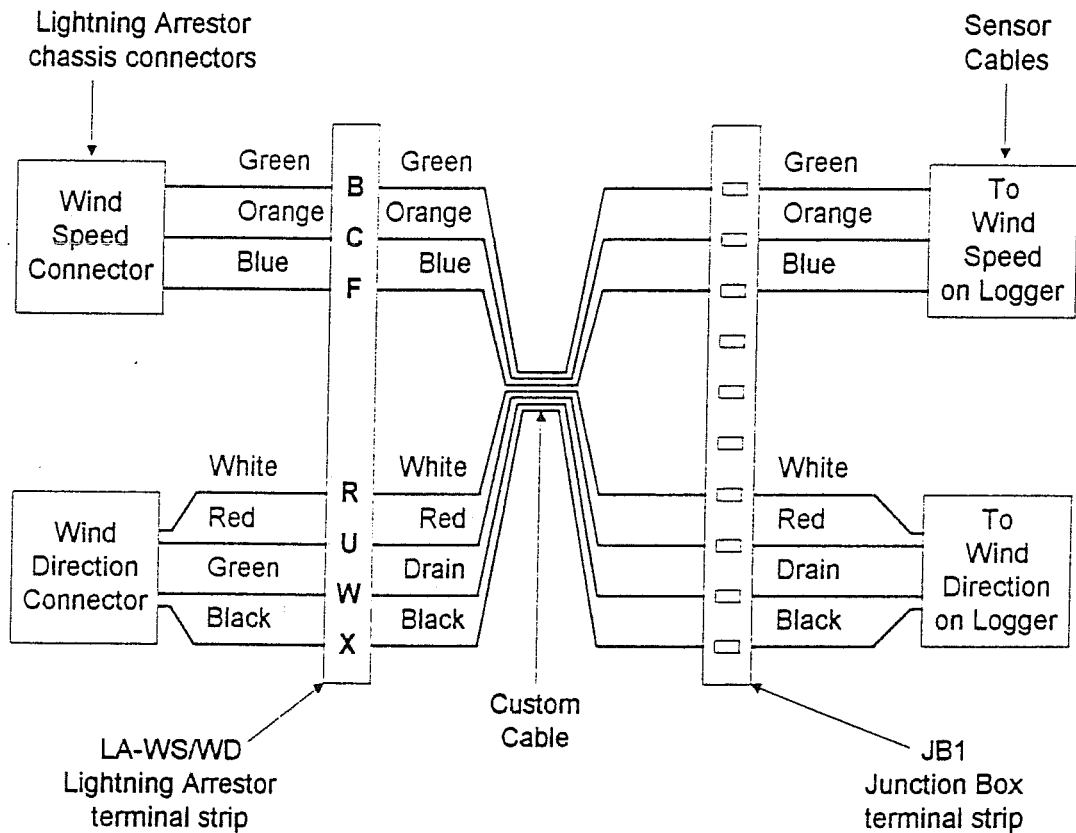

Figure 5-13
10. Figure 5-13 shows a simple connection diagram for the LA-WS/WD lightning arrester, custom length cable, and a standard junction box. The color-coding of the wires are typical of cables provided by FTS Forest Technology Systems.